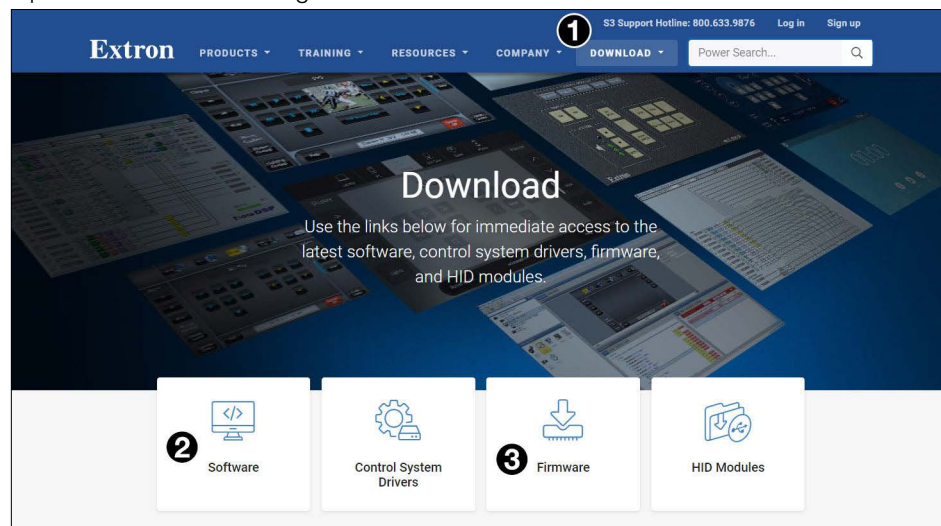

Figure 25. Downloading Software or Firmware from the Extron Web Site
2. Click the Download (see figure 25, **1**) button at the top of the web page.